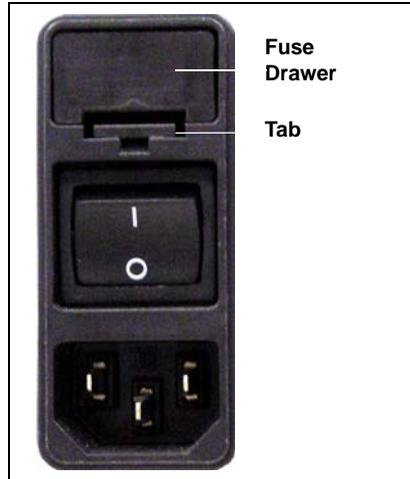

Figure 5-11. Fuse Drawer
3. The fuse drawer is located above the power switch (see Figure 5-11). A small tab locks the fuse drawer in place. Using a small screwdriver, press the tab *in* and *then up* to release the fuse drawer.